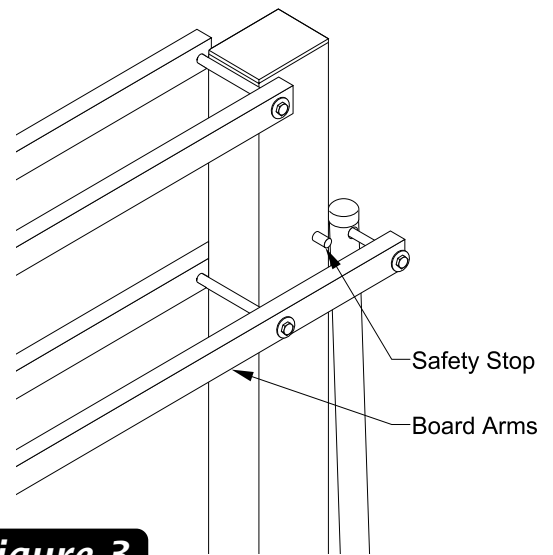

Figure 3
3. Lower system until Board Arms rest on safety stops. See Figure 3.